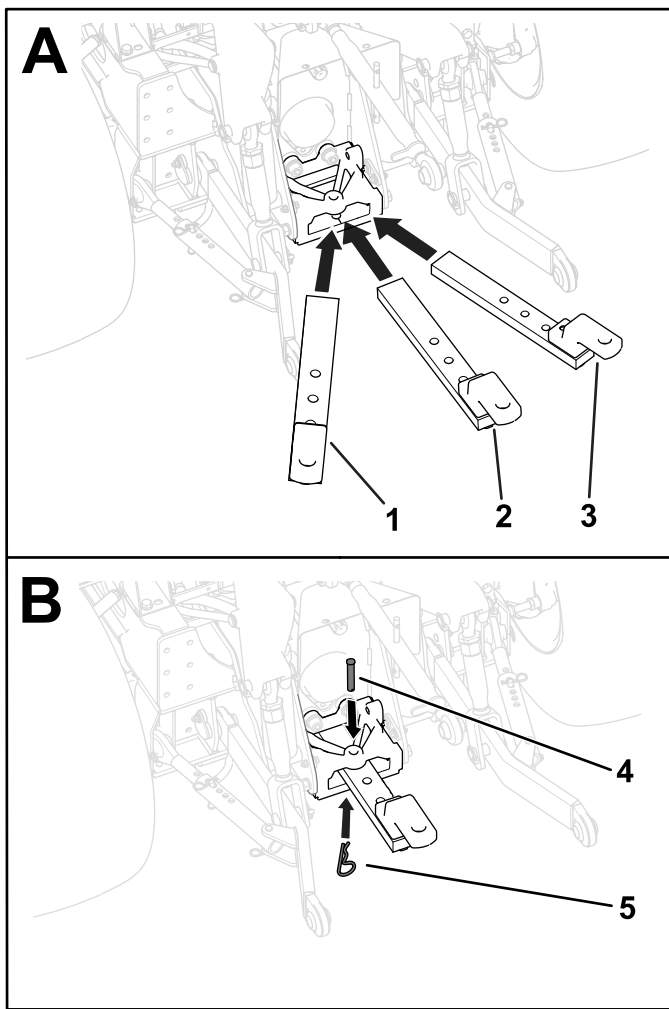

Figure 21
You can install the drawbar in a left-side-adjusted, right-side-adjusted, or centered position (Figure 21). Determine the appropriate drawbar position for your attachment, then install the drawbar as follows:
1. Insert the drawbar into the drawbar support (Figure 21).
2. Secure the drawbar to the support by inserting the clevis pin through the one of the three mount hole locations in the drawbar and attaching the hairpin cotter to the pin (**Figure 21**).